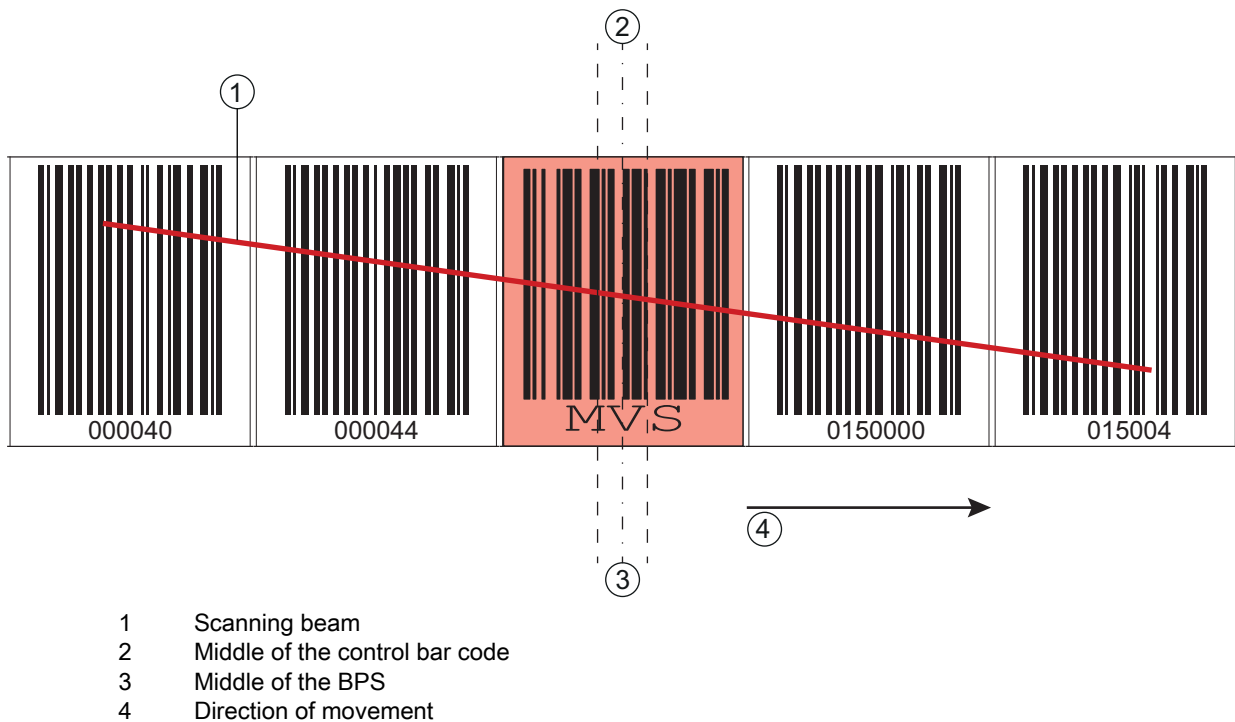

Figure 3.14: Changeover position with *MVS* control bar code for BCB changeover
- If the center of the BPS reaches the transition point of the control bar code, the device switches to the second BCB, provided the next position label is in the BPS's scanning beam (see figure 3.14). The output position value is thereby always uniquely assigned to one BCB.